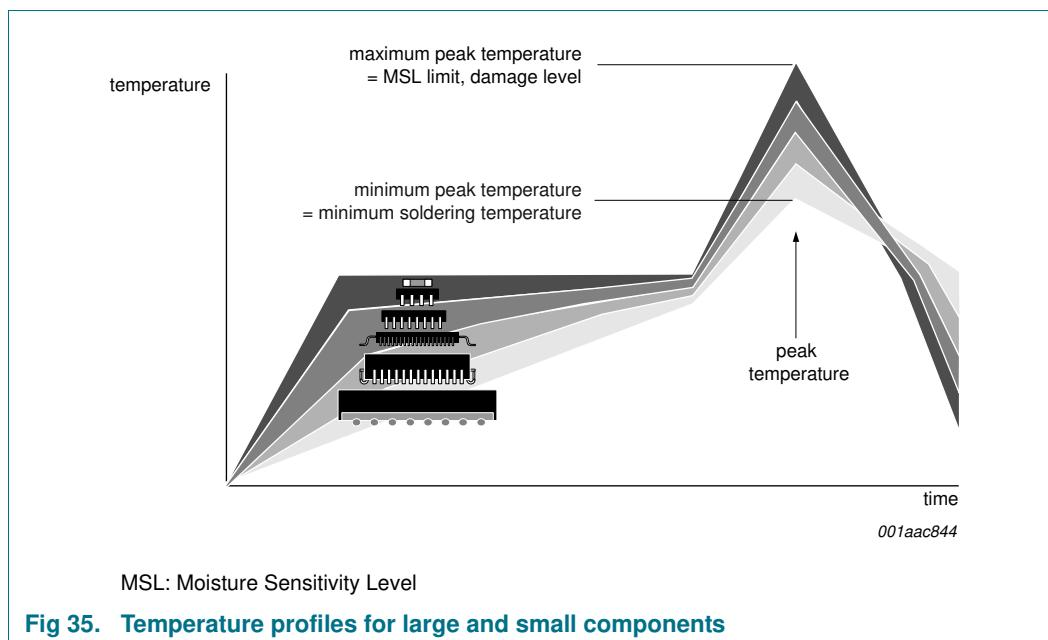

Fig 35. Temperature profiles for large and small components
- Lead-free versus SnPb soldering; note that a lead-free reflow process usually leads to higher minimum peak temperatures (see Figure 35) than a SnPb process, thus reducing the process window
Studies have shown that small packages reach higher temperatures during reflow soldering, see Figure 35.